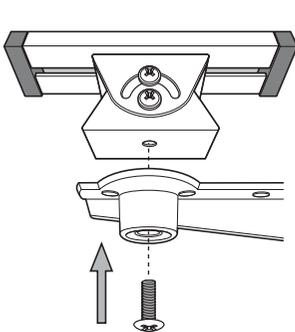

Fig. 4.
3. Screw the camera base to the bracket as shown (Fig. 4) before passing the cable(s) through walls.